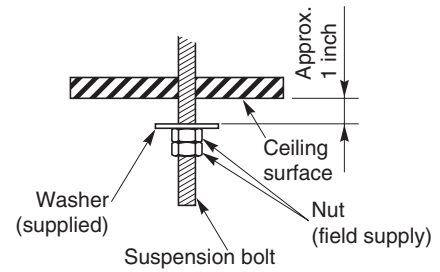

Fig. 1-92
- (7) Suspend the indoor unit as follows.
- Mount a washer and two hexagonal nuts on each suspension bolt as shown in Fig. 1-92.